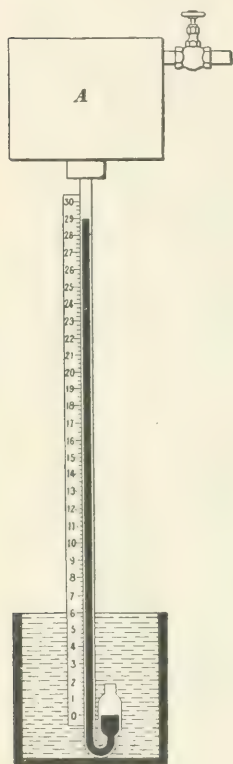

FIG. 16.
which there is a partial vacuum is measured by the height to which a mercurial column in a vertical tube, whose top is connected to the vessel, will rise under the pressure of the atmosphere. Thus, when we say that there is a vacuum of 29 inches in a vessel, we mean that enough air has been exhausted from the vessel to enable the surrounding air to support a mercurial column 29 inches high, as shown in Fig. 16, where *A* is the vessel in which there is a partial vacuum. In other words, the pressure in the vessel is less than the pressure of the atmosphere by a column of mercury 29 inches in height.
47. The Vacuum Gauge.—For engineering work, the glass tube of Fig. 16 would be a rather inconvenient form of gauge for measuring the vacuum. Hence, special metallic gauges, known as **vacuum gauges**, have been designed. Their dial is graduated to show the degree of vacuum, in inches of mercury. In steam-engineering work, they are used chiefly in connection with condensers for steam engines. It should be borne in mind that a vacuum gauge does not indicate the pressure in the vessel to which it is attached, but instead shows, in inches of mercury, how much the pressure has been *lowered below the atmospheric pressure*. In this respect a vacuum gauge differs essentially from a **pressure gauge**, which shows how much the pressure has been *increased* either above the pressure of a perfect vacuum, which is zero, as in case of a gauge registering the pressure of the atmosphere, or above the atmospheric pressure, as in case of the ordinary pressure gauge.